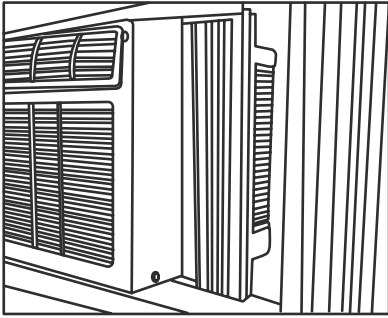

Fig.5
2. Keep a firm grip on the air conditioner, carefully place the unit into the window opening so the bottom of the air conditioner frame is against the window sill (Fig.5). Carefully close the window behind the top rail of the unit. **(Suggest to keep a downward oblique, to let accumulated rain water to drain out, from back side of the unit bottom.)**